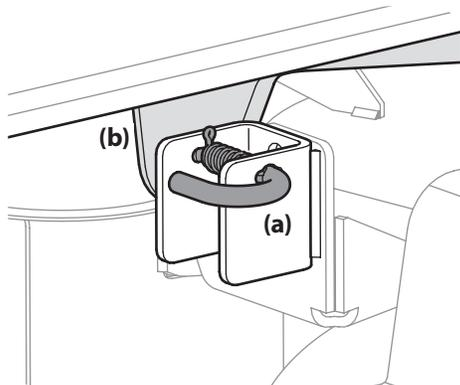

Figure 4-14
7. Locate the LH and RH deck release pins (a) on each side of the deck. Pull the deck release pins (a) outward and release the deck from the LH and RH deck lift arms (b). See Figure 4-14.
4. Pull the deck release pins outward and maneuver the deck as necessary to align the holes in the deck lift arms with the pins. Refer to Figure 4-14.